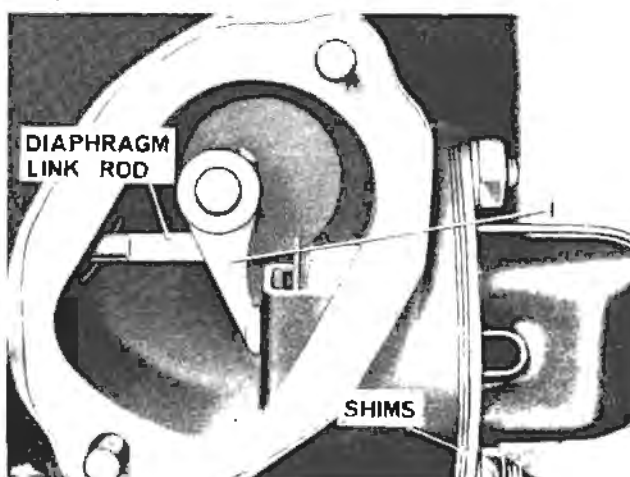

Fig. K.13.—Solenoid Yoke Adjustment.
- (iii) Solenoid setting.—With the choke valve closed, solenoid gap should be set to be between .0005" and .004", preferably .0005" and adjusted by shims under the solenoid flange. The gap must be parallel (see Fig. K.13).